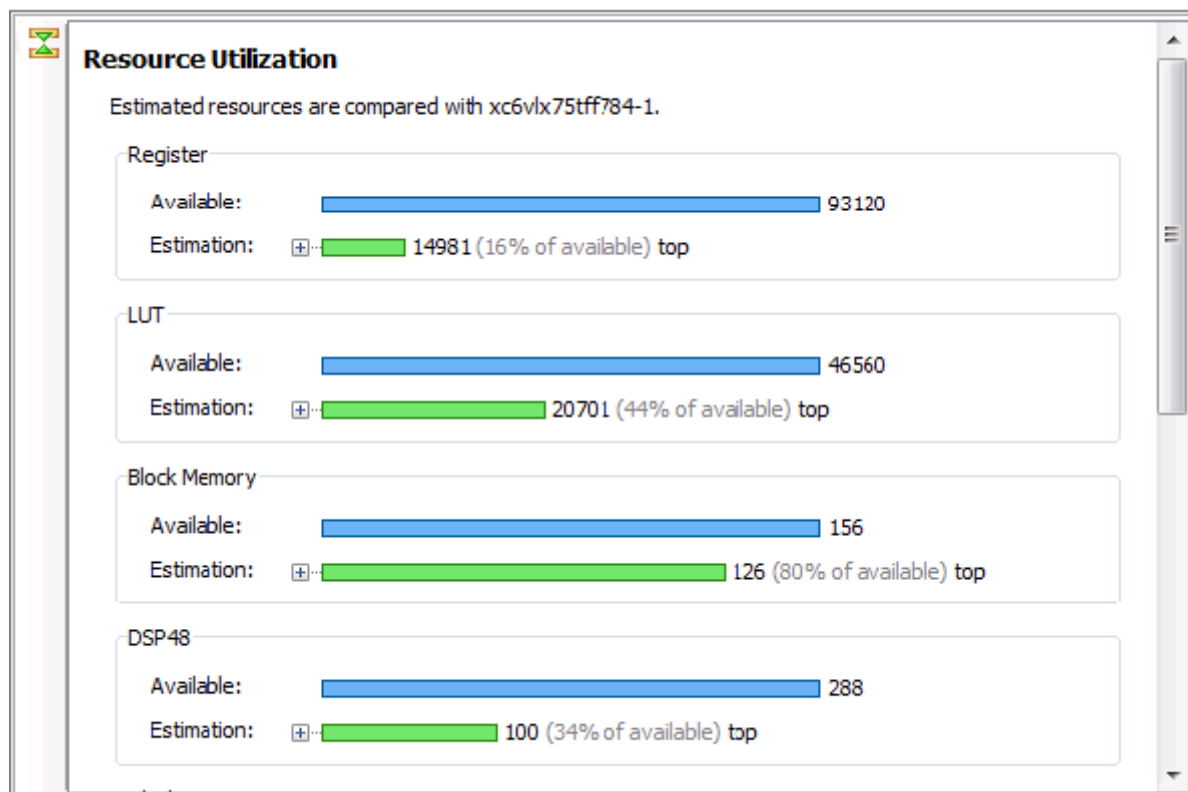

Figure 10: Resource Estimation View
- 3-1-2.** Double click on the **Resource Estimation** tab to maximize the window. Alternately, right-click on the Resource Estimation tab and select **Maximize** from the popup menu. The Resource Estimation view shows resource utilization per level of design hierarchy (Figure 10).